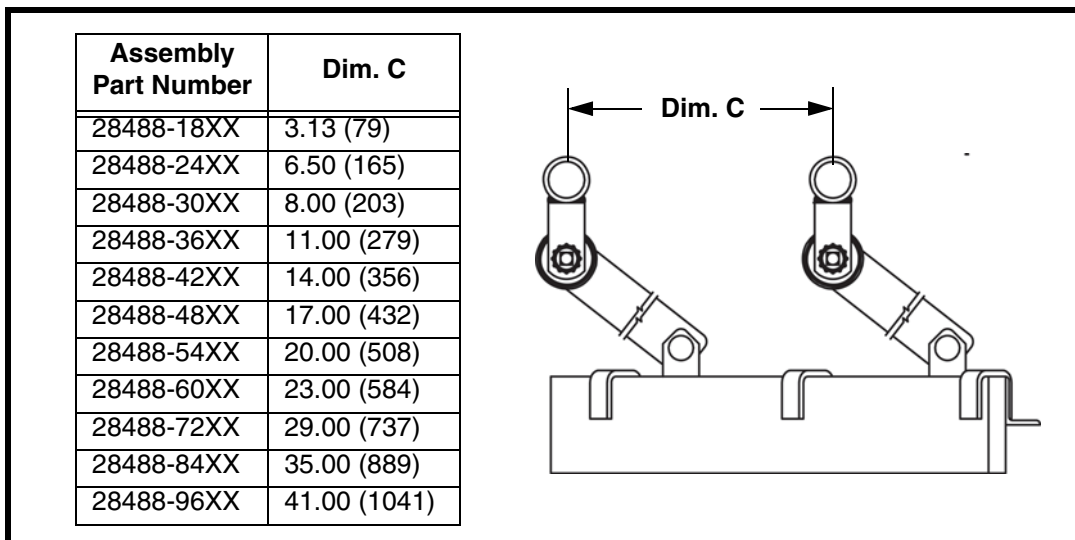

Figure 3. Distance Between Hanger Bars
3. After determining how far above belt to locate hanger bars, measure distance between hanger bars according to the chart in Figure 3. Mark location of hanger bars on stringers.
- a. If stringers (E) are too low to accommodate hanger bars in proper position, bolt or weld four 1/2-in. (13-mm) thick steel plates (F) to the tops of the stringers.
- b. If stringers are high enough to accommodate hanger bars in proper position, fasten mounting plates (G) for hanger bars directly onto stringers.